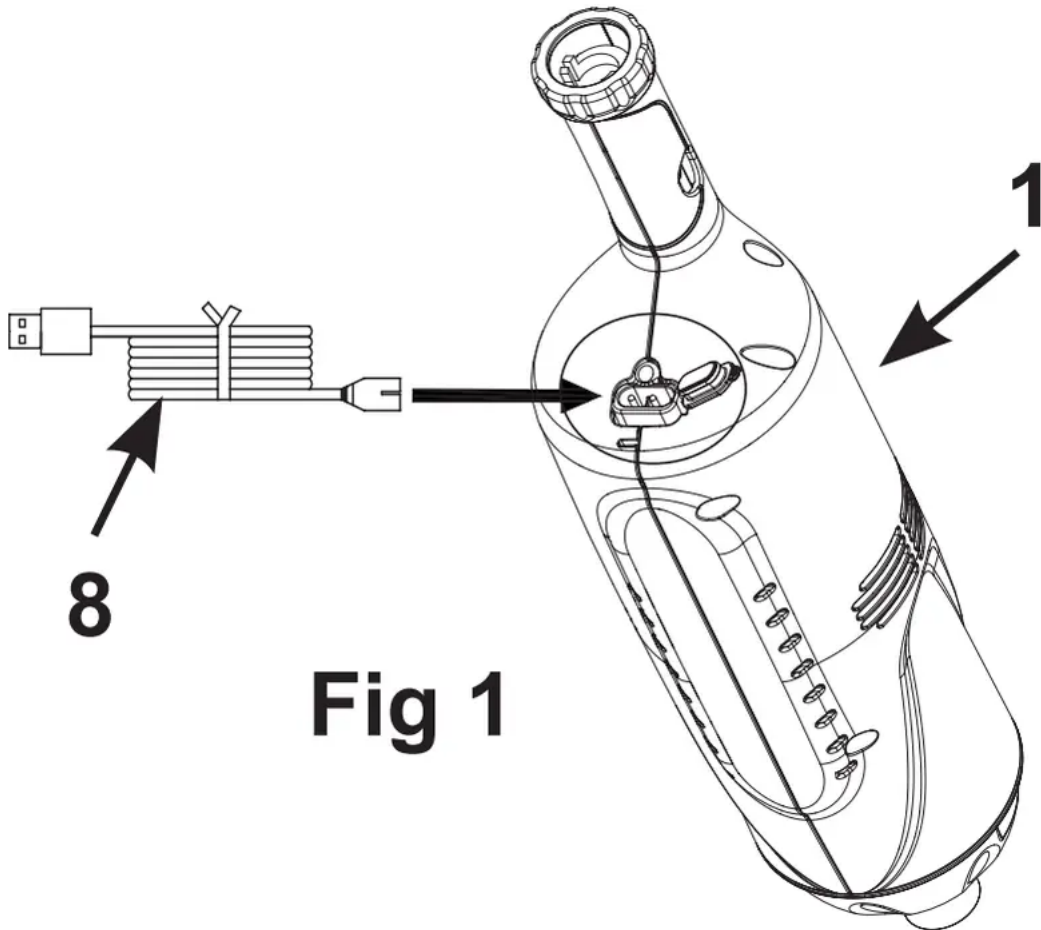

Fig 1
2. Connect the small end of the USB cable (8) into the vacuum body (1) charging receptacle. See fig 1. The indicator light will turn on.